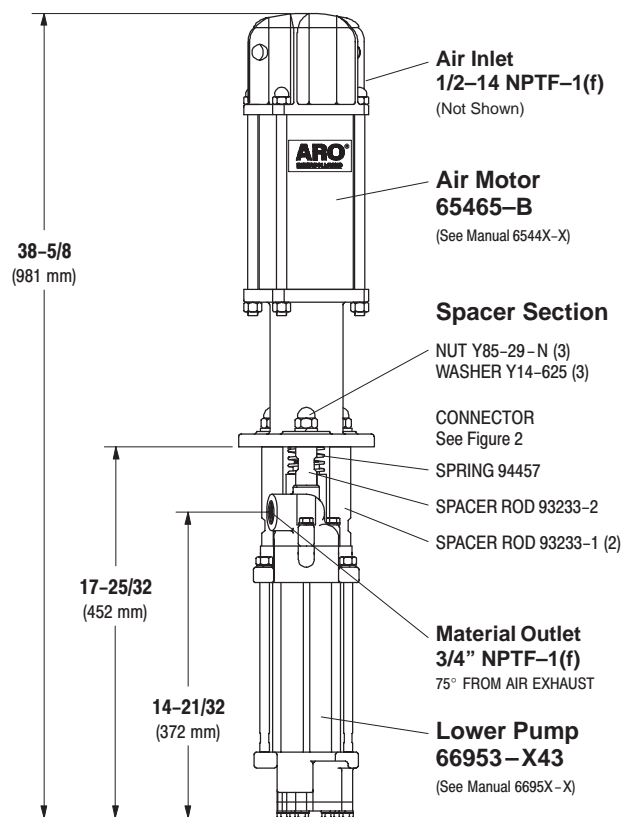

FIGURE 1
- Remove the three nuts and washers from the three spacer rods (figure 1).